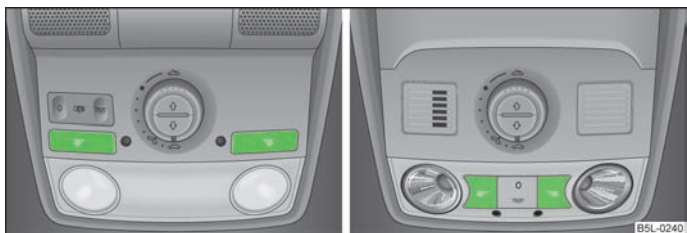

Fig. 31 Reading lights
- › Press switch  or  » Fig. 31 to switch the reading lights on or off.